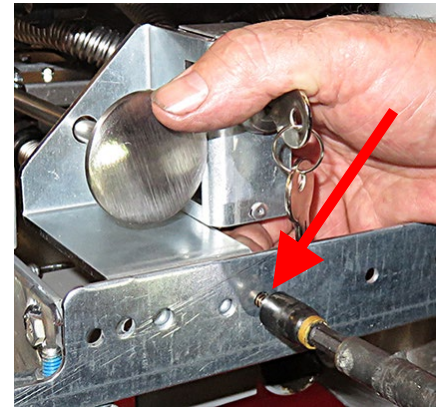

Figure 41
45. Attach the dispose valve bracket to the frame (see Figure 41). Ensure the